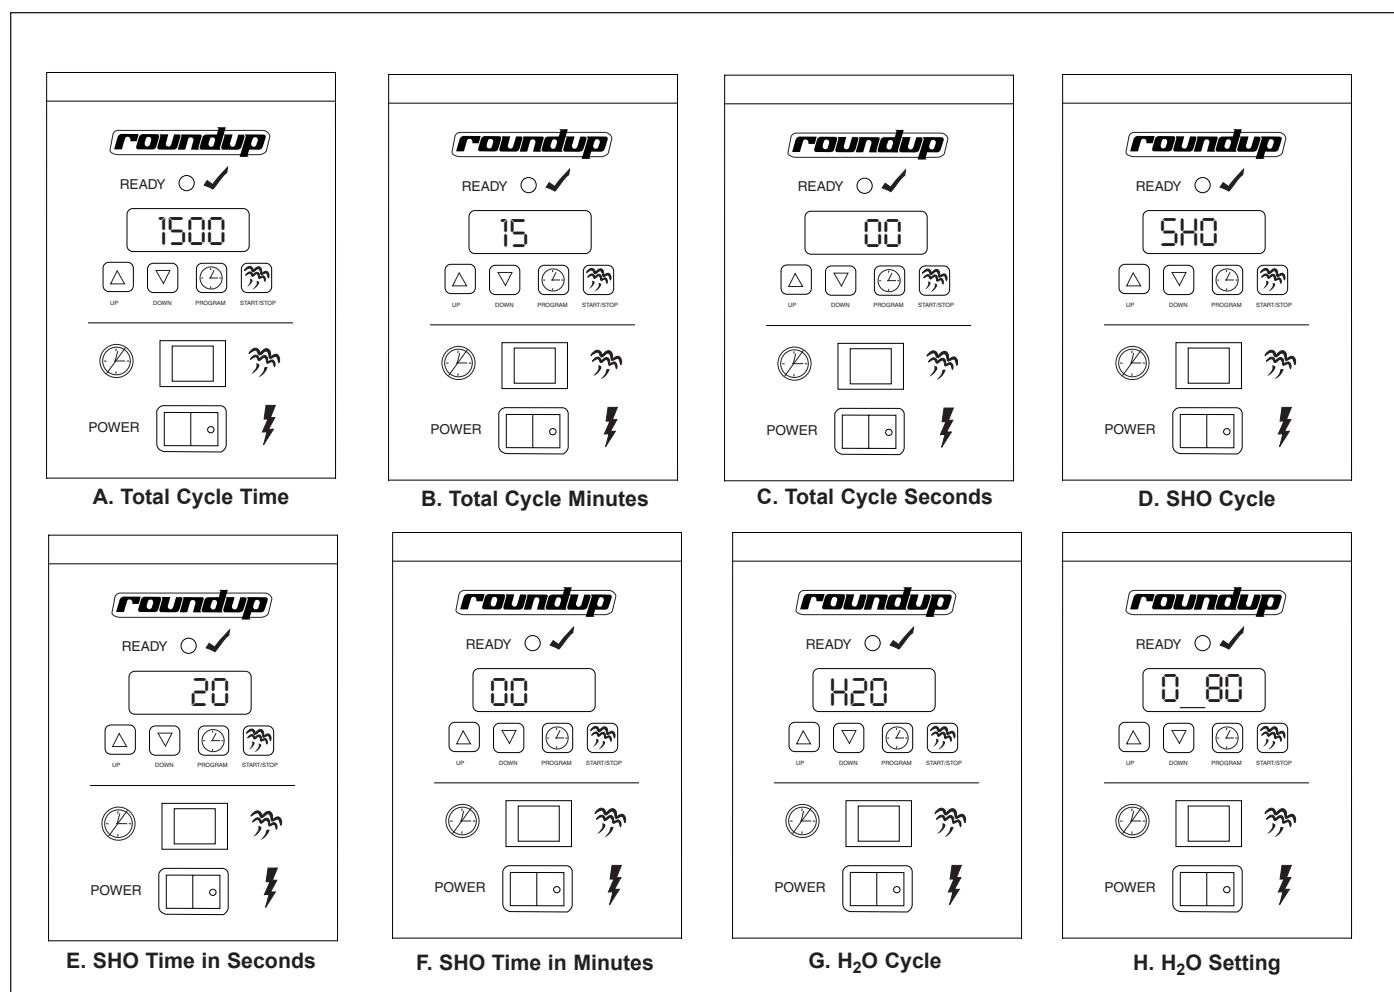

Figure 7. Control Programming Sequence
To program the control, refer to Figure 7 and use the following procedure in sequence:
1. Turn the power on. The display shows the factory programmed Total Cycle Time in minutes and seconds (Item A, Figure 7).
3. To change the Total Cycle Time in minutes, use the **UP** or **DOWN ARROW** buttons to change the time (Item B, Figure 7).
4. Press and release the **PROGRAM** button again and use the **UP** or **DOWN ARROW** buttons to change the Total Cycle Time in seconds (Item C, Figure 7).
5. To change the SHO factory settings, make sure the control is in Program mode, then press and hold the two **ARROW** buttons simultaneously for 1-2 seconds and then release. SHO will be displayed (Item D, Figure 7).
6. Press and release the **PROGRAM** button and use the **UP** or **DOWN ARROW** buttons to change the SHO setting in seconds (Item E, Figure 7).
- Press and release the **PROGRAM** button again and use the **UP** or **DOWN ARROW** buttons to change the SHO setting in minutes (Item F, Figure 7).
- Press and release the **PROGRAM** button again and “H2O” is displayed (Item G, Figure 7).
- To change the H2O setting, press and release the **PROGRAM** button again to display the setting (Item H, Figure 7). Use the **UP** or **DOWN ARROW** buttons to increase or decrease the time.